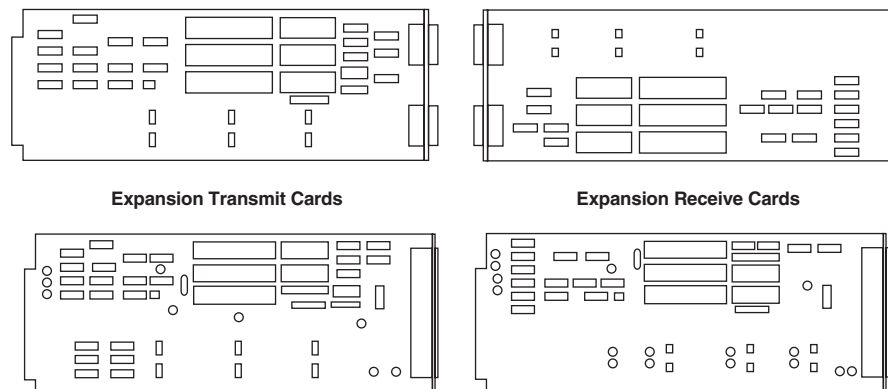

Figure 6-8. Expansion-card orientation.
1. Orient a pair of Transmit and Receive Cards as shown in Figure 6-8. (Because of the way its components are labeled, it’s easier to read the regular Receive Card if you hold it with its port connectors to the left.)